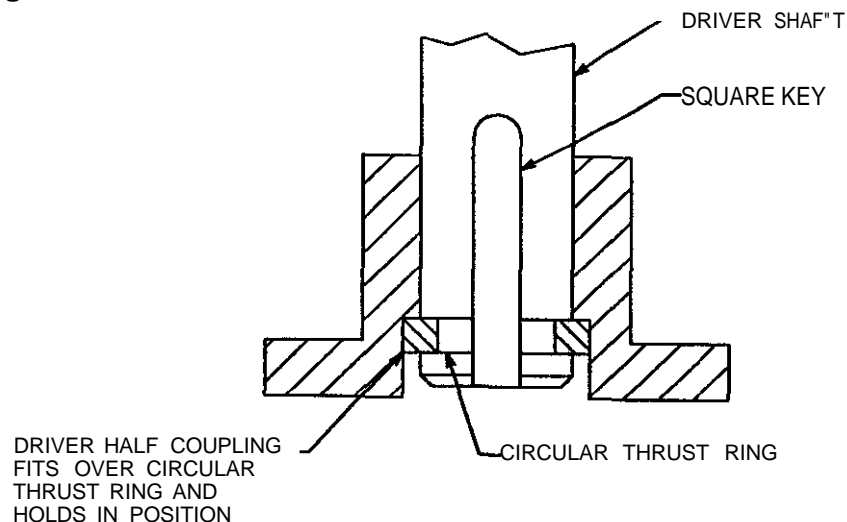

Figure 4-D
- Install circular thrust ring in shaft groove – when properly positioned the half-coupling will slip down over the circular key and hold it in position. See **Figure 4-D**.